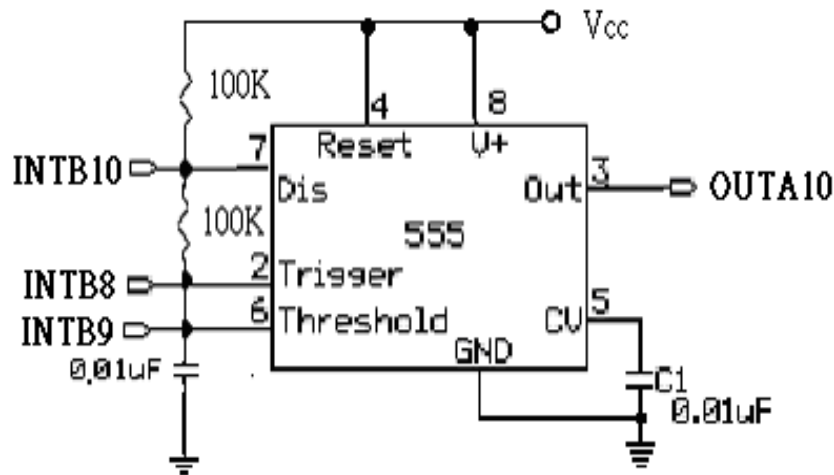

Figure 9-11
1. Nonstable multi-vibrator circuit, as figure 9-11.